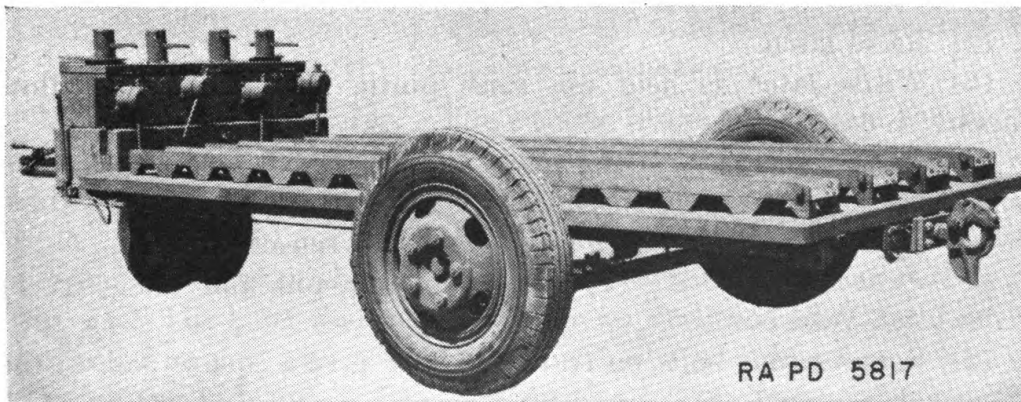

FIGURE 1.—Bomb trailer M5, rear view.
**2. Characteristics.**—The bomb trailer M5 (fig. 1) is a castered third-wheel trailer which is designed to meet low loading and ease of handling requirements. The front caster wheel unit permits turning the vehicle in its own tracks. Trailers may be connected in trains behind a prime mover for operation at fairly high speed. The front of the hitch yoke is provided with a reversible lunette which may be attached to the rear pintle of another trailer or a prime mover. The vehicle is provided with electric brakes and truck-type tires with puncture-sealing tubes.